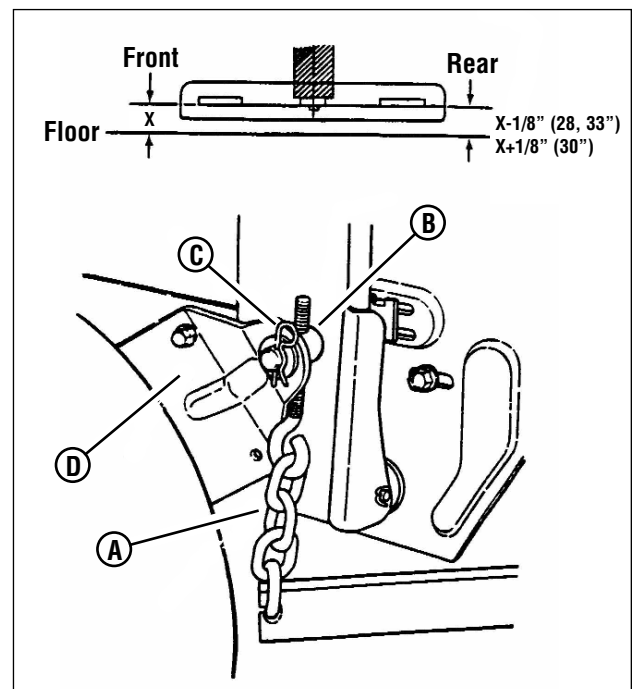

Figure 34: Adjusting the mower deck (front-to-rear)
4. Remove the rear hanger chains (**A, Figure 34**) and allow rear center of the deck to rest on the angle iron.
9. Readjust the rear hanger chain pivots (**B, Figure 34**) to align with the holes in the support brackets (**D**).
With the Rear Engine Rider on a smooth, level surface, rotate the blade until the blade tips are at the front and rear of the deck. Measure the distance from the blade tips to the floor (**Figure 34**). The distance should be the same, or the rear 1/8" to 1/4" lower than the front. If the rear blade tip is higher than the front, or is more than 1/4" lower than the front, proceed with adjustment.
With the Rear Engine Rider on a smooth, level surface, rotate the blade until the blade tips are at the front and rear of the deck. Measure the distance from the blade tips to the floor (**Figure 34**). The distance should be the same, or the rear 1/8" to 1/4" higher than the front. If the rear blade tip is lower than the front, or is more than 1/4" higher than the front, proceed with adjustment.
1. Remove the rear hanger chains (**A, Figure 34**).